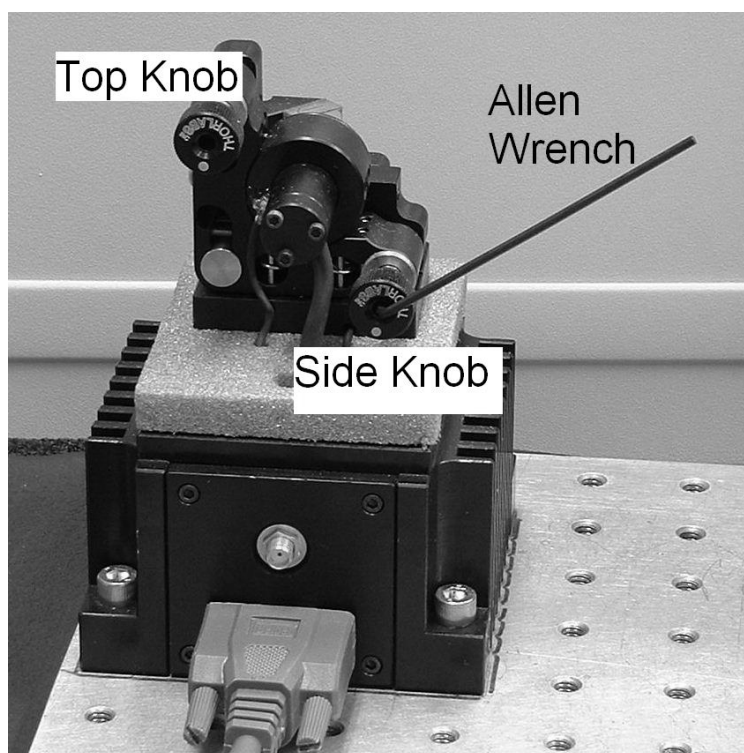

Figure 2: Picture showing TOP and SIDE Knobs used to align grating. Allen wrench is shown in Side Knob.
*Operating note : The TOP and SIDE knobs are used to align the grating with respect to the diode. The lines on the grating run vertically. Figure 2 shows the diode laser with the cover off and the 5/64" Allen wrench placed in the SIDE knob. The first order diffraction from the grating is directed back into the diode. The zero order reflection from the grating is the light you observe leaving the laser. The TOP knob rotates the grating about an axis that is parallel to the table top. Turning the TOP knob changes the vertical angle of the light diffracted from the grating. But to first order it **does not** change the wavelength of the light that is diffracted back into the laser. The SIDE knob rotates the grating about an axis that is perpendicular to the table top. Turning the SIDE knob **does** change the wavelength of the light that is diffracted back into the diode.*